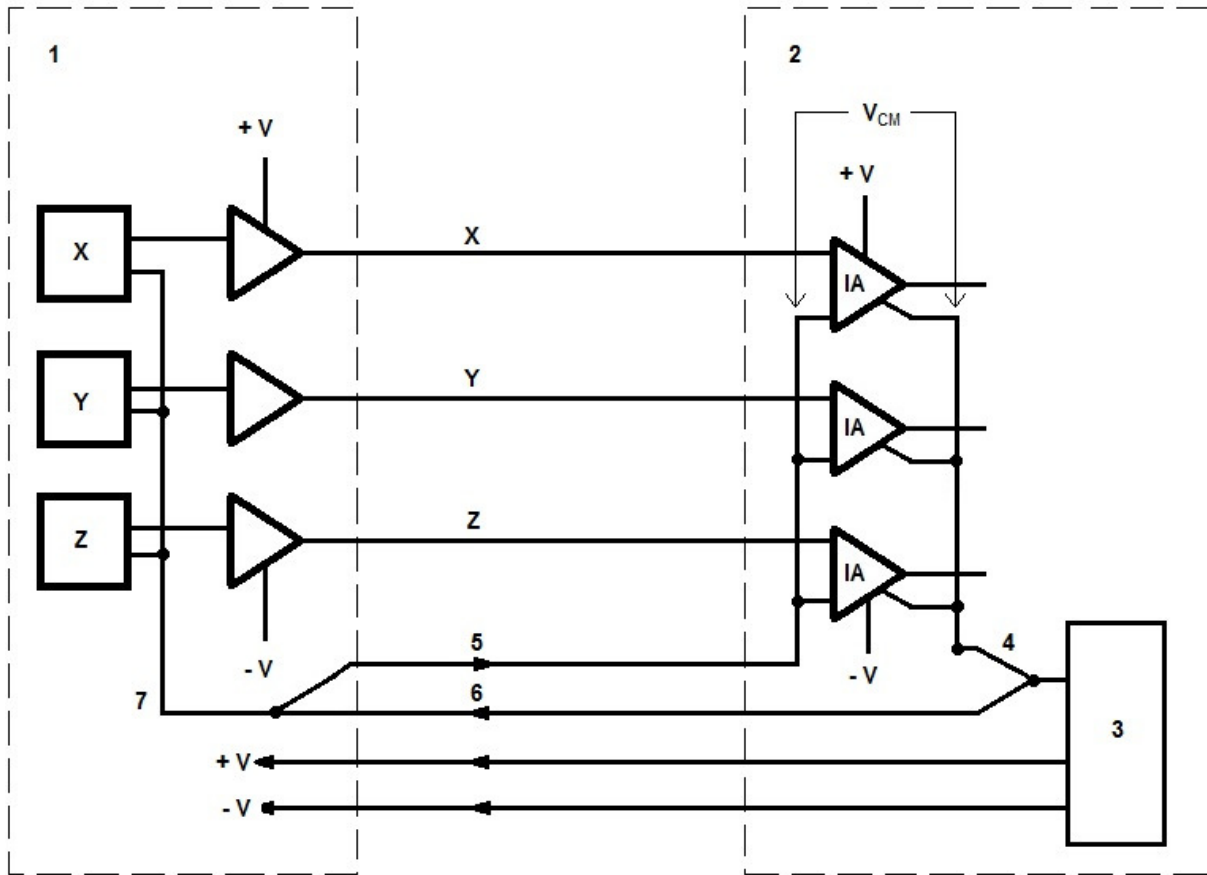

Figure 1
Key to Figure 1:
Figure 1 illustrates the recommended connection method for users who do not wish to use Bartington Instrument's power supplies. Using this method is essential when using cables over 10m.
The schematic shows signal and power grounds separated at the Host end. The Host is fitted with buffer amplifiers configured as Instrumentation Amplifiers (IA), which have two high impedance inputs, one connected to X, Y or Z and the other to signal ground. An IA produces an output that is the voltage difference of its input referenced to a local 0V. This 0V reference may be significantly different from either of the two input voltages to the IA (indicated by V_{CM} in Figure 1). Consult the manufacturer's data for the part chosen to ensure the common-mode range is not exceeded.